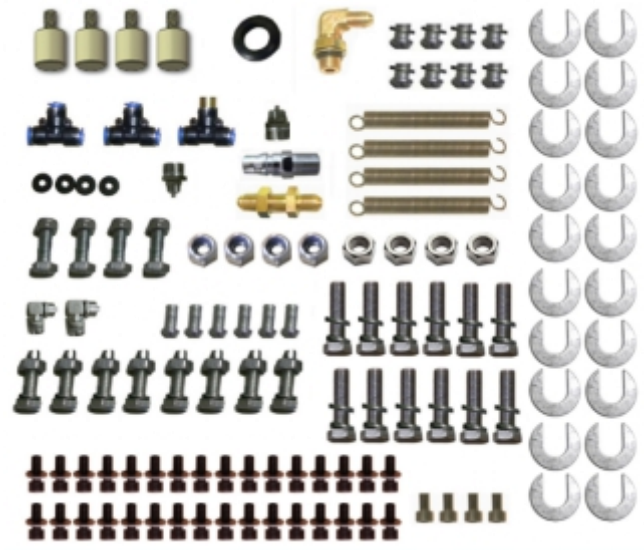

Fig. 11
7. Open the carton of parts and check the parts according to the parts box list (See Fig. 11).